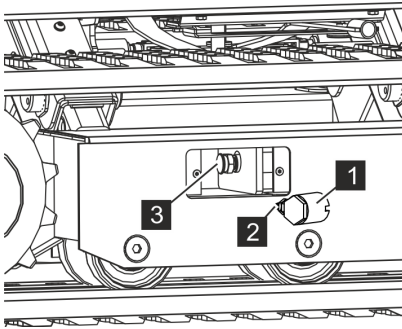

Fig. 211: Tensioning the chain
4. → Push the slide coupling (Fig. 211/1) with the grease nipple (Fig. 211/2) in front onto the grease tension cylinder (Fig. 211/3).